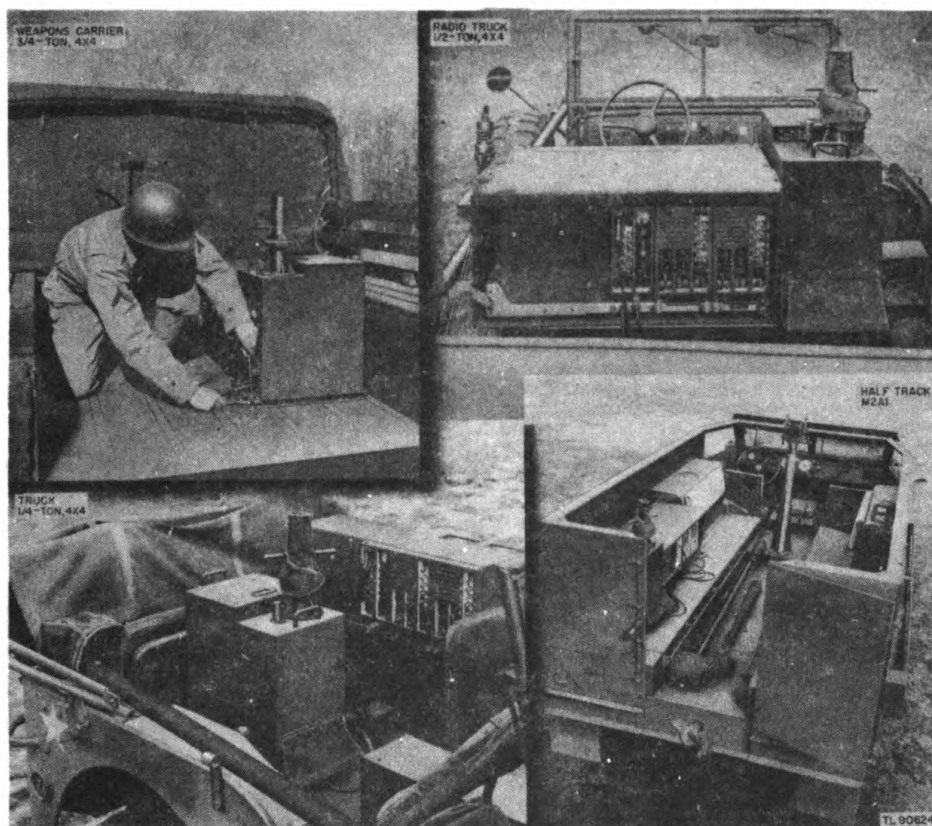

Figure 21. Beacon mounted in various vehicles.
a. Radio Beacon Equipment RC-163 can be installed in any vehicle having a Radio Set SCR-508-($\&$) or SCR-608-($\&$) installation and capable of accommodating the antenna array. Recommended vehicles include jeeps, half-tracks, command cars, and weapons carriers (fig. 21). If other than a recommended vehicle is used, make sure there is ample room for storage and the Adcock elements of the beacon array clear the metal sides or cab of the vehicle by at least 6 inches. This clearance is necessary to prevent antenna pattern distortion.